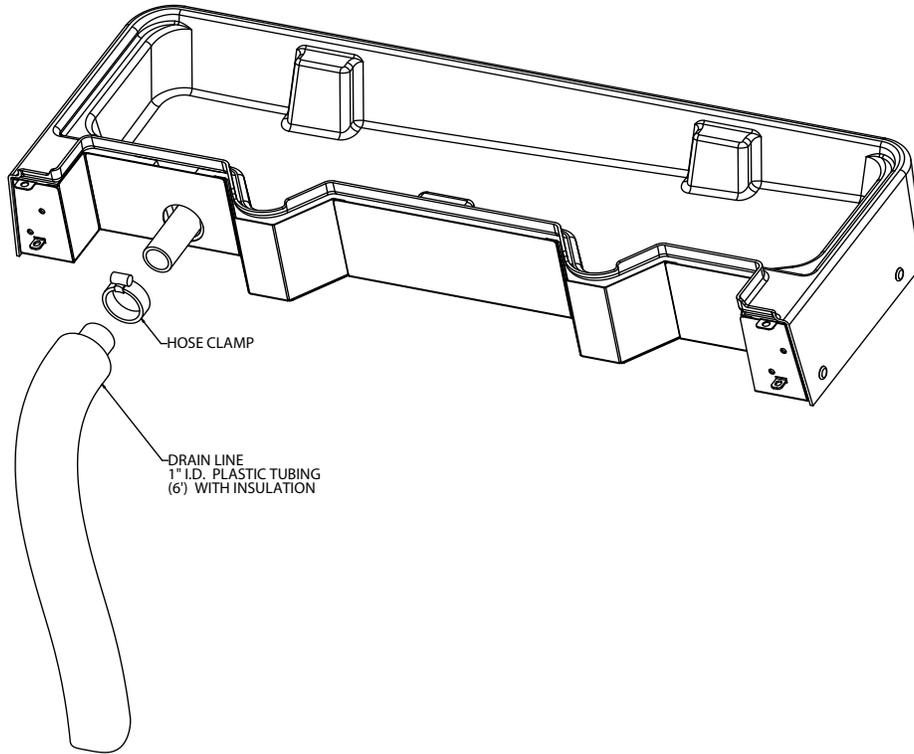

Figure 3.
4. DRIP TRAY DRAIN ASSEMBLY (see Figure 3): Route the drain tube to an open drain with the end of the tube above the “flood” level of the drain. Use the tubing, fittings, clamps, and insulation provided with the Dispenser to assemble the drain. The completed drain line *must* pitch continuously downward and contain no “traps” or improper drainage will result.